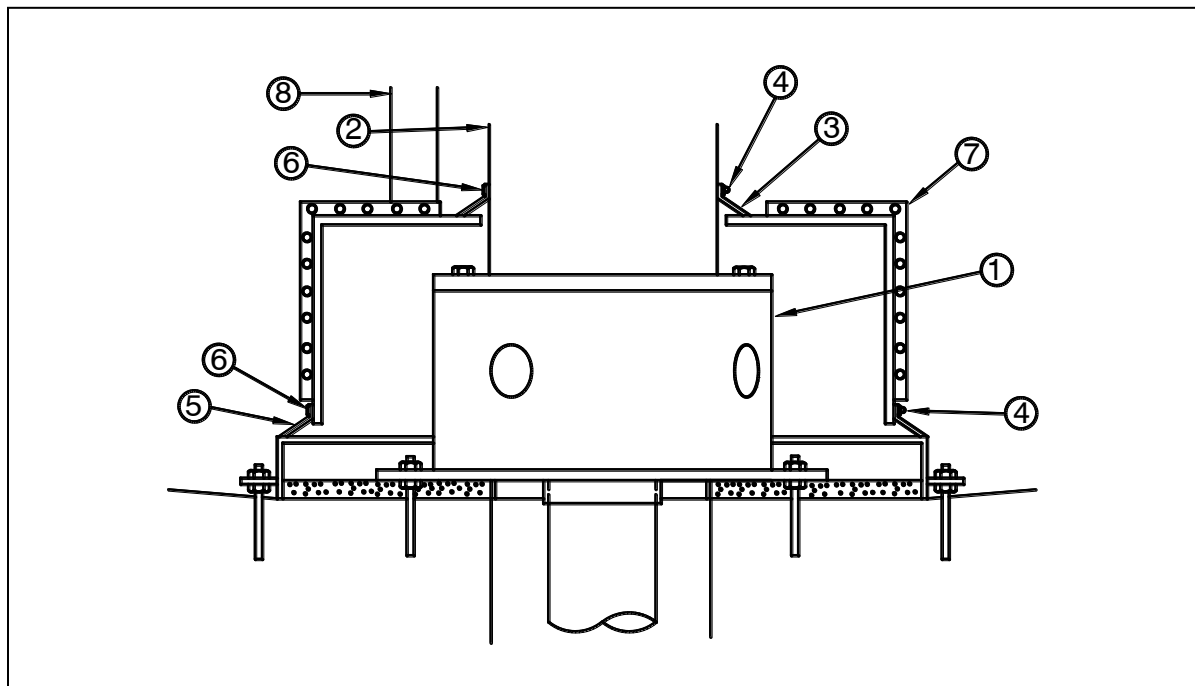

Figure 2.9b
9. Locate and install the self-tapping screws with washers, field drilling pilot holes through the band clamp and seal to ease installation of the screws. Refer to Figure 2.9b.